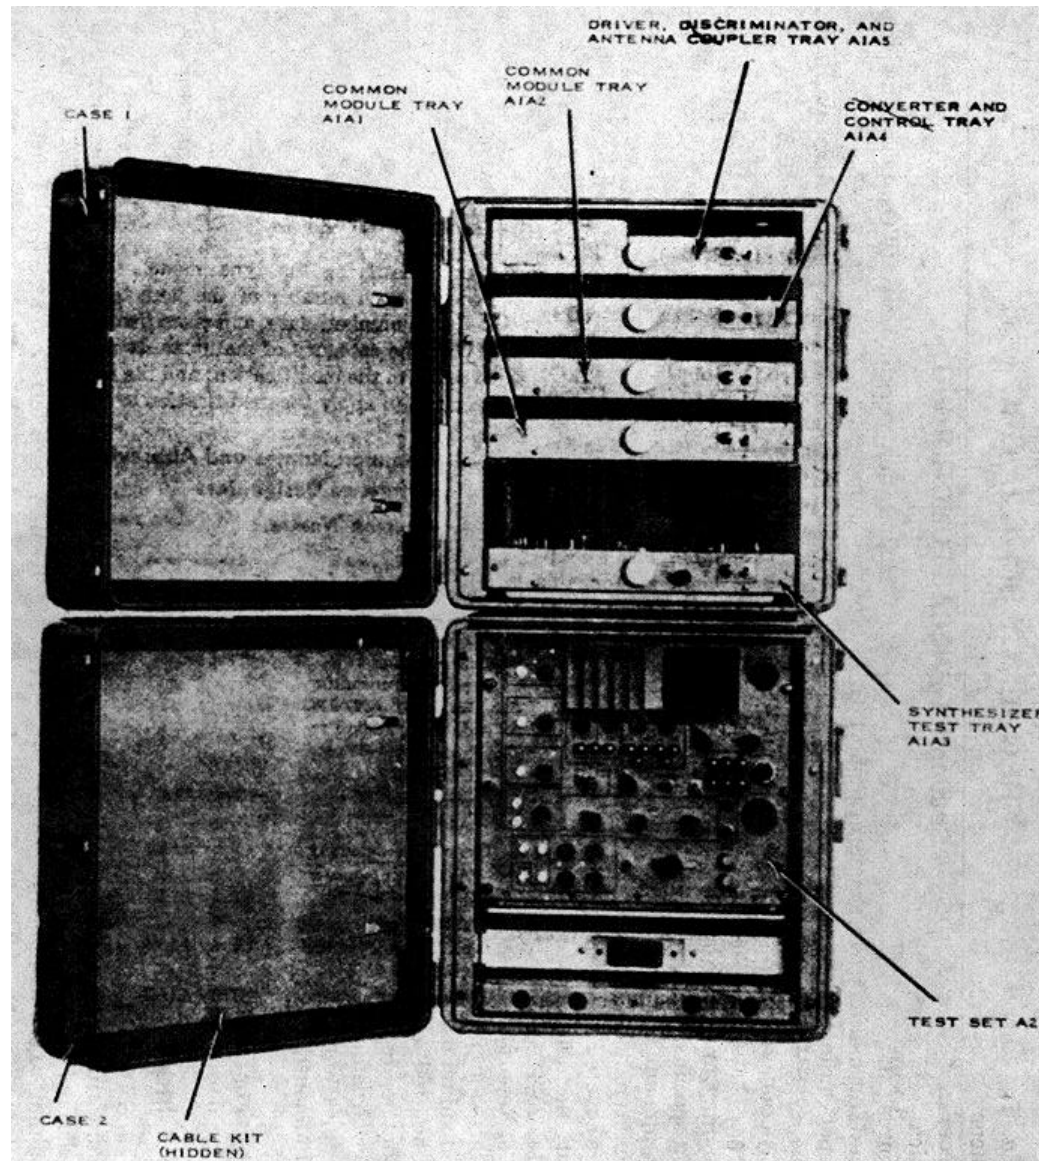

Figure 1-1. Simulator, Radio Frequency SM-442A/GRC.
a. This manual covers general support (GS) and depot maintenance for Simulator, Radio Frequency SM-442A/GRC (fig. 1-1). It includes instructions appropriate to GS and depot maintenance categories for troubleshooting, testing, aligning, and repairing the equipment, and replacing specified maintenance parts. It also lists test equipment, tools, and materials for GS and depot maintenance. Detailed functions of the equipment are covered in this chapter. The complete technical manual for this equipment includes TM 11-662-847-12.